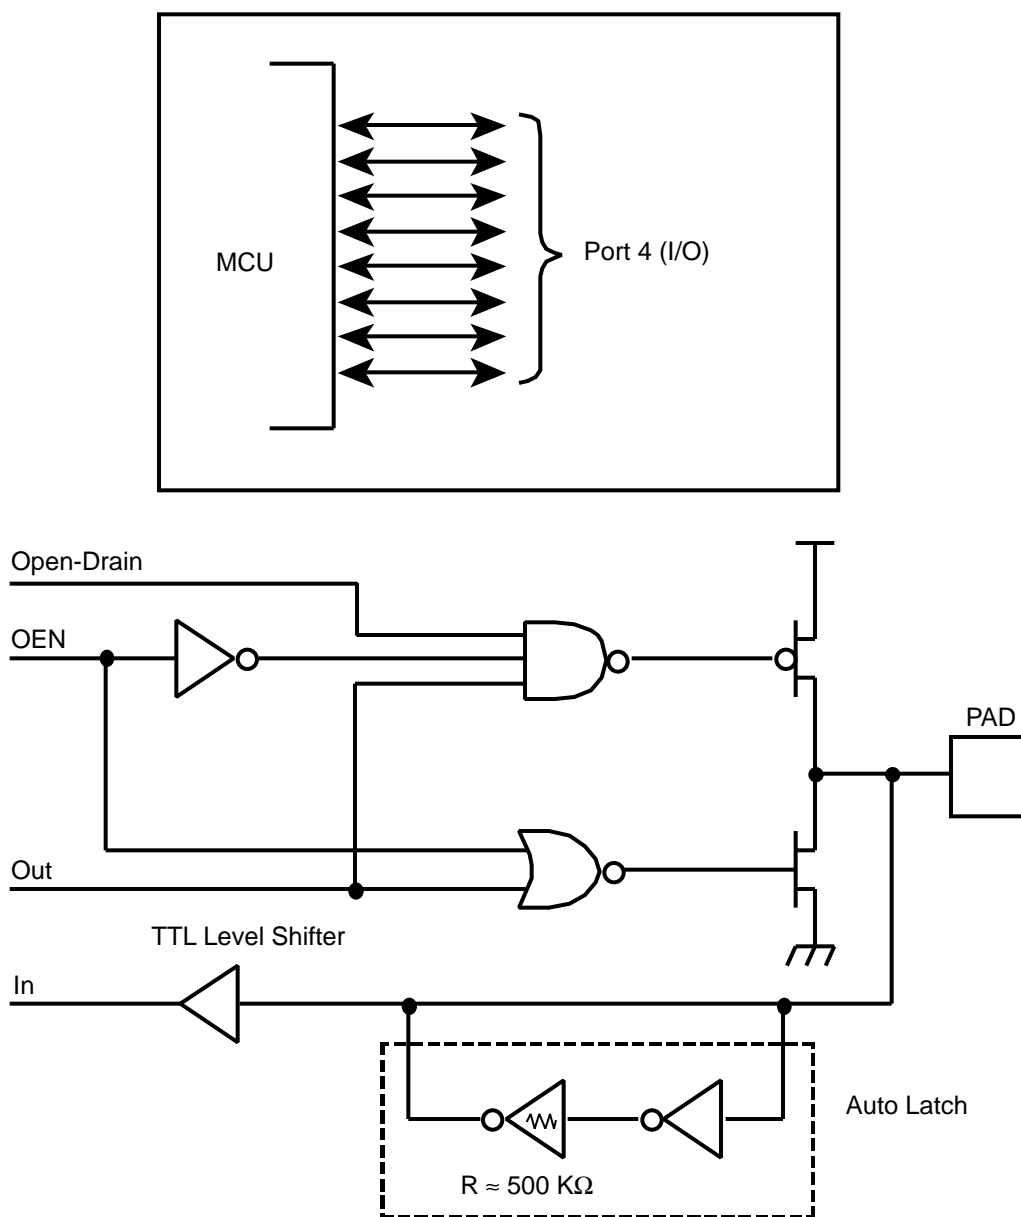
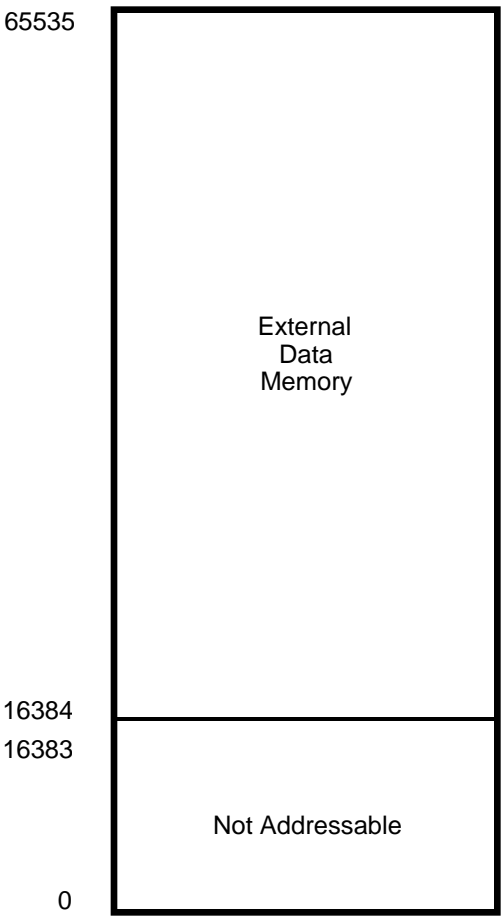

Figure 18. Port 4 Configuration
Figure 20. Data Memory Configuration
**Port 4** (P47-P40). Port 4 is an 8-bit, bit programmable, bi-directional, CMOS-compatible port. Each of these eight I/O lines can be independently programmed as an input or output or globally as an open-drain output. Port 4 is always available for I/O operation (Figure 18). Port address (F)02.
**Port 5** (P57-P50). Same as Port 4. Port address (F)04.
**Port 6** (P63-P60). Same as Port 4. (Note: this is a 4-bit port, bits D3-D0.) Port address (F)07.
**Data Memory (/DM).** The ROM version can address up to 48 KB of external data memory space beginning at location 16384. The ROMless version can address up to 64 KB of external data memory. External data memory may be included with, or separated from, the external program memory space. /DM, an optional I/O function that can be programmed to appear on pin P34, is used to distinguish between data and program memory space (Figure 20). The state of the /DM signal is controlled by the type instruction being executed. An LDC opcode references PROGRAM (/DM inactive) memory, and an LDE instruction references DATA (/DM active Low) memory.
**Register File.** The Register File consists of four I/O port registers, 236 general-purpose registers and 16 control and status registers (Figure 18). There are eight further registers for I/O ports 4, 5 and 6 in the Expanded Register File (Bank F, R9-R2) (Figure 20).
The upper nibble of the register pointer (Figure 20) selects which group of 16 bytes in the register file, out of the full 236, will be accessed. The lower nibble selects the expanded register file bank and in the case of the Z86C61/62/96, only Bank F is implemented. A 0H in the lower nibble will allow the normal register file to be addressed, but any other value from 1H to FH will exchange the lower 16 registers in favor of an expanded register group of 16 registers.